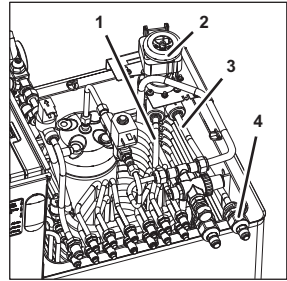

Figure 65
6. Remove the nut (Figure 65/4) from the soda water circulation connection (supply) (Figure 65/3).
7. Disconnect soda water circulation line (supply) (Figure 65/3) from the circulation pump (Figure 65/2).
8. Disconnect the soda water line (Figure 65/1) from the circulation pump (Figure 65/2).
25. Attach the soda water line (Figure 65/1) to the circulation pump (Figure 65/2).
26. Attach the soda water circulation line (supply) (Figure 65/3) to the circulation pump (Figure 65/2).
27. Attach the nut (Figure 65/4) to the soda water circulation connection (supply) (Figure 65/3).